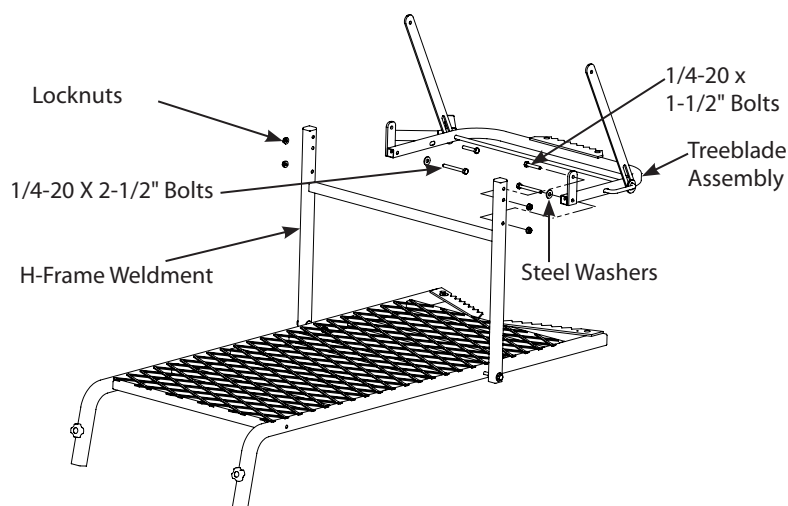

Figure 2
2. Attach the treeblade assembly (15973) to the H-frame weldment (14001) using (2) provided 1/4-20 x 2-1/2" bolts, (2) 1/4 - 20 x 1-1/2" bolts, (4) locknuts and (2) steel washers. **SEE FIGURE 2.**